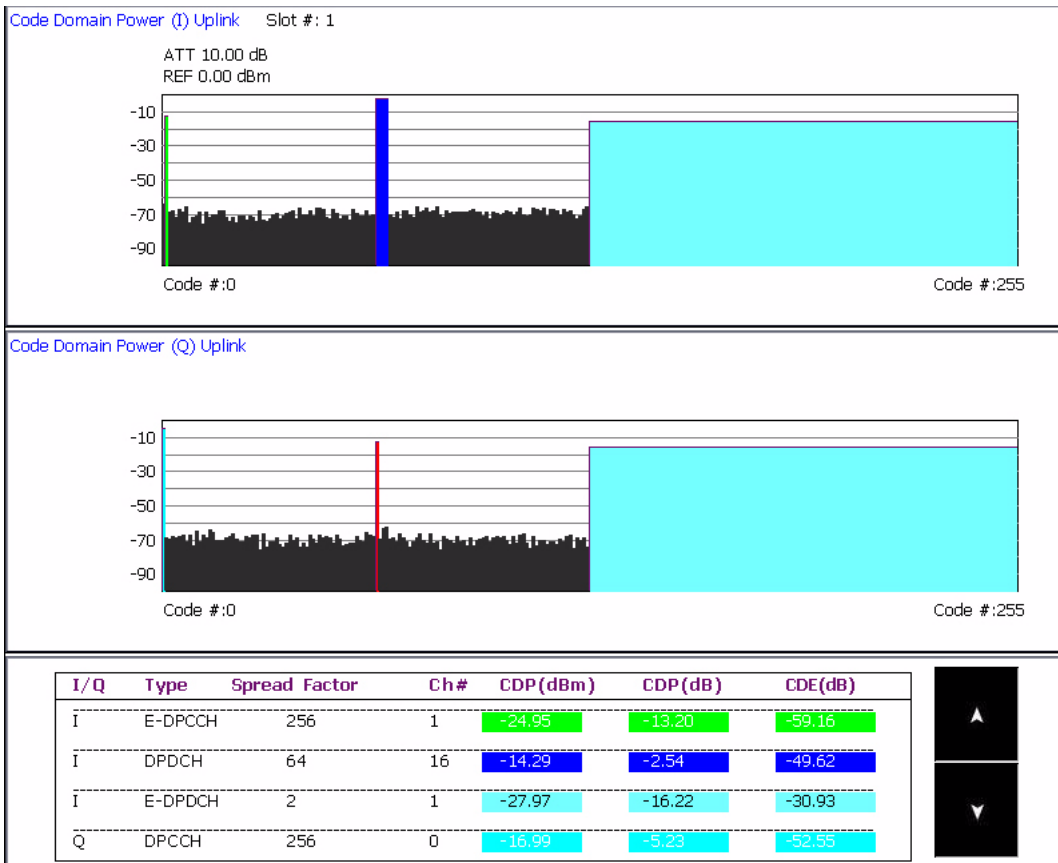
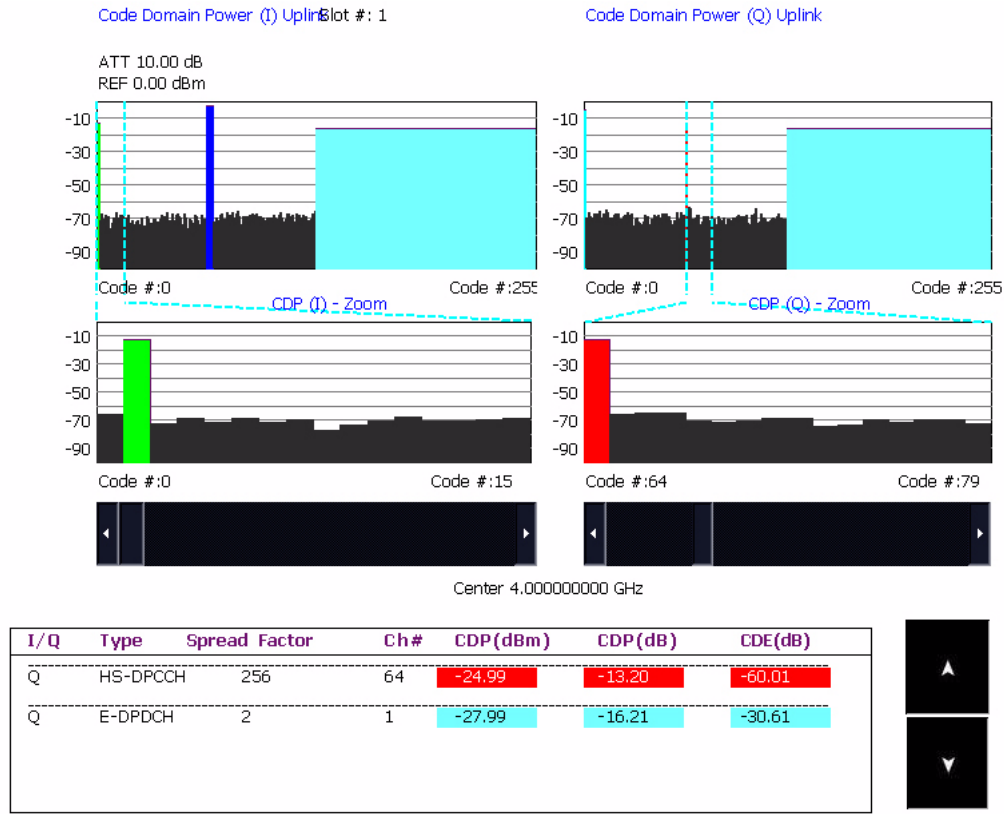

Figure 5-41. Code Domain Power
Figure 5-42. Code Domain Power with Zoom
In WCDMA Uplink, there are the DPCCH and DPDCH channels. In a HSUPA signal, there are DPCCH, DPDCH, HS-DPCCH, E-DPCCH, and E-DPDCH channels. In the CDP display, different types of channels are identified with different colors. Figure 5-41 shows a Code Domain Power graph. The measuring signal is HSUPATest2SF2 and it consists of two SF2 E-DPDCH channels as follows:
To get a clearer picture of the content in the display, select the CDP with Zoom graph type. A zoom of 16 code channels will be shown depending on the position of the dotted frame at the top graph. The step size of the zooming frame is set in the Demodulation Config (2) Tab in the WCDMA Setup Dialog. Figure 5-42 shows a graph of Code Domain Power with Zoom.
The Code Domain Error graph shows the code domain error for each channel instead of the code domain power. Figure 5-43 and Figure 5-44 show the Code Domain Error and Code Domain Error with Zoom for the same signal shown earlier in Figure 5-41 and Figure 5-42.